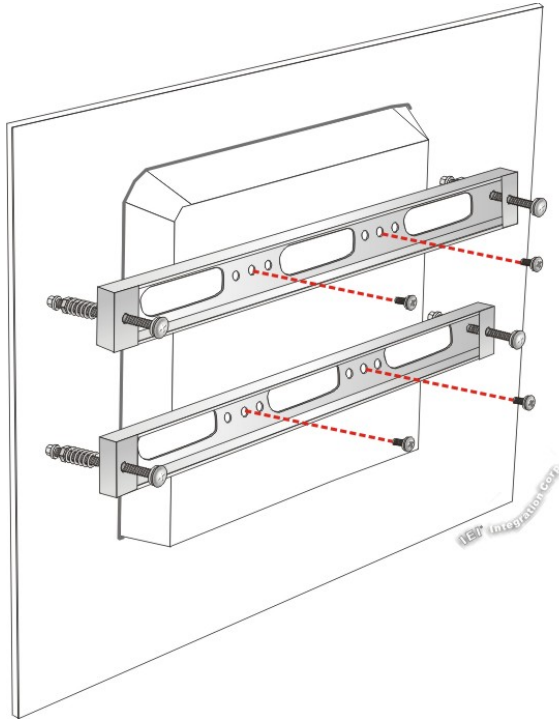

Figure 3-23: Securing Panel Mounting Brackets
- Step 7:** Secure the two panel mounting brackets to the rear of the panel PC by inserting the four retention screws into the VESA mounting holes and tightening them (Figure 3-23).